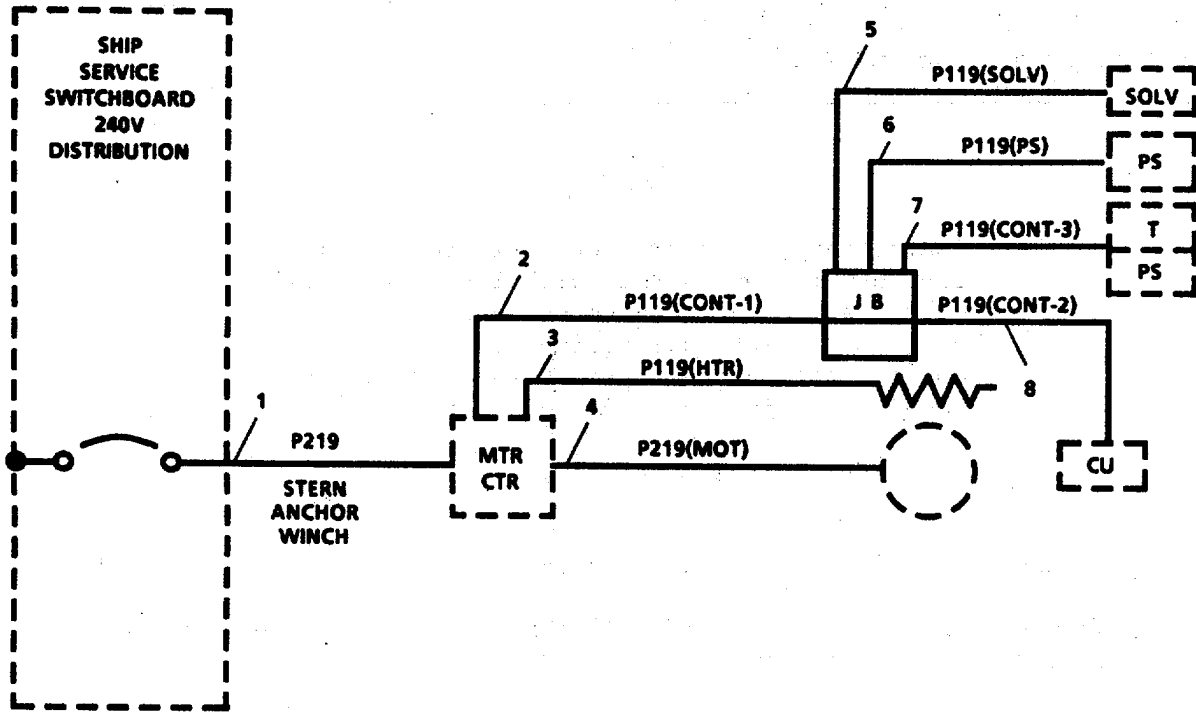

FIGURE 3-144. Stern Anchor Winch Power Distribution.
**3-158. Repair Stern Anchor Winch Power Distribution. (Figure 3-144)..**